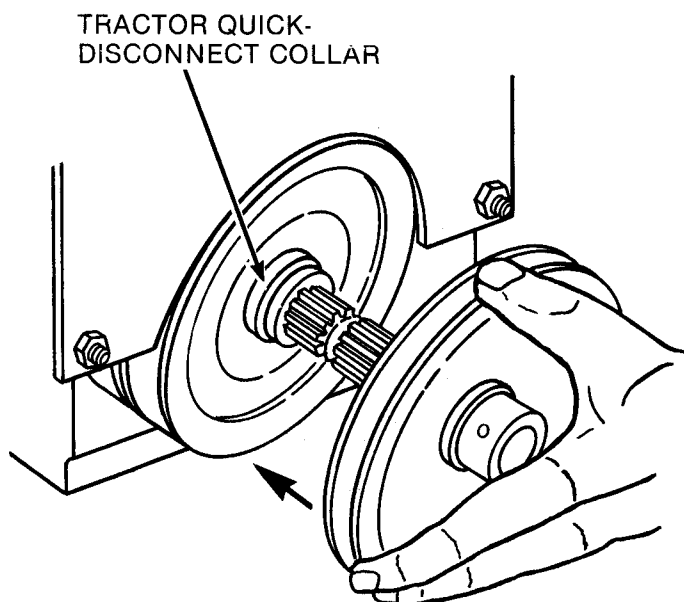

FIG. 9 - REINSTALL TAKE-OFF PULLEY
Step 7: Push collar on tractor rear P.T.O. quick-disconnect in, insert the splined shaft end of the take-off pulley into engagement inside P.T.O. shaft then pull collar out to lock in place.(Fig. 9)